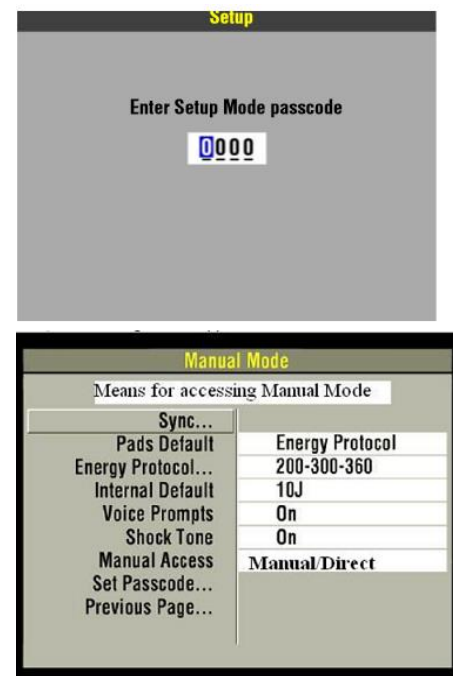

Figure 1.2: Manual Mode Access
3. In the Setup/Manual Mode submenu, set the Manual Access selection to **Manual/Direct** as shown in Figure 1.2.